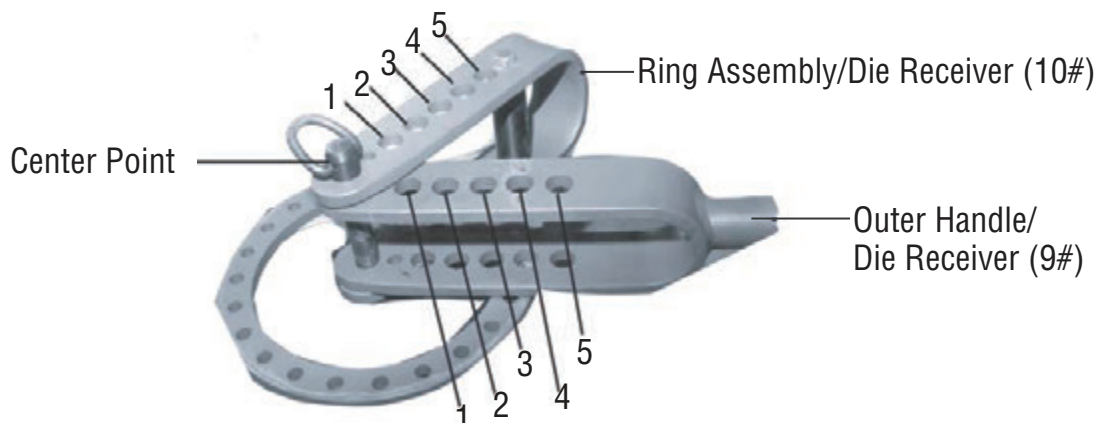

Figure 3-Numbering of Holes
Throughout this manual, the holes are often identified by a specific number, i.e., the 3rd hole in the Handle. There are five holes referred to in the Outer Handle/Die Receiver (9#) and 5 holes referred to in the Ring Assembly (10#). For clarification of each hole and its corresponding number, please refer to **Figure 3**.
3. Two Dies can be placed so that one is on the Outer Handle/Die Receiver (9#) and one at the center point where the Outer Handle/Die Receiver (9#) and Ring Assembly/Die Receiver (10#) intersect. see **Figure 3**.